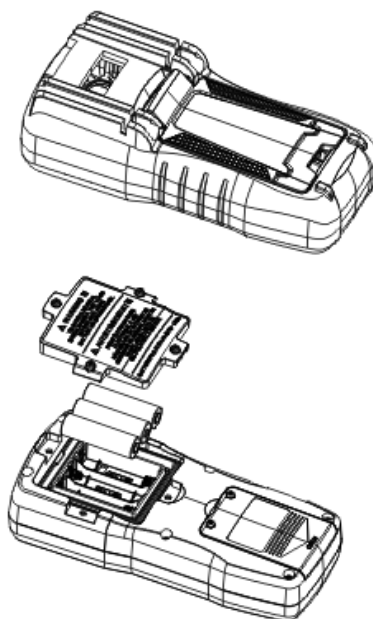

Figure 17
2. Battery replacement (Figure 17)